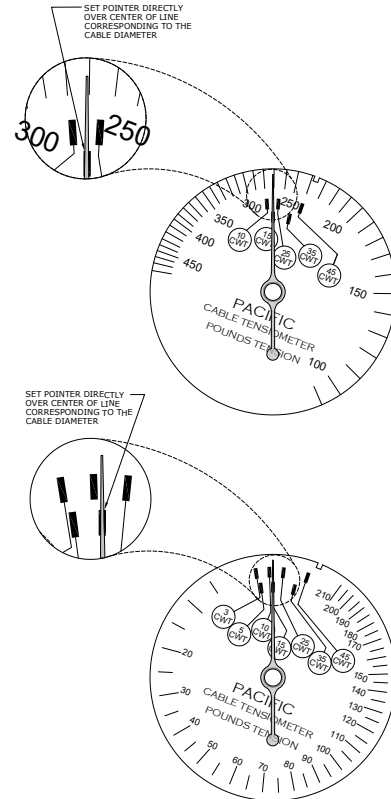

Figure 2 Preset Instructions Type C8 & C9 British
- a. **TYPE C8** – To Pre-set Dial: Rotate knurled rim of pre-set dial until the pointer is directly over the line corresponding to the cable diameter (See Fig 2). With the dial properly aligned with the correct cable size, repeat step 1. b.
TYPE C9 – To Pre-set Dial: Rotate knurled rim of pre-set dial until the pointer is directly over the line corresponding to the cable diameter (See Fig 2). With the dial properly aligned with the correct cable size, repeat step 1. b.